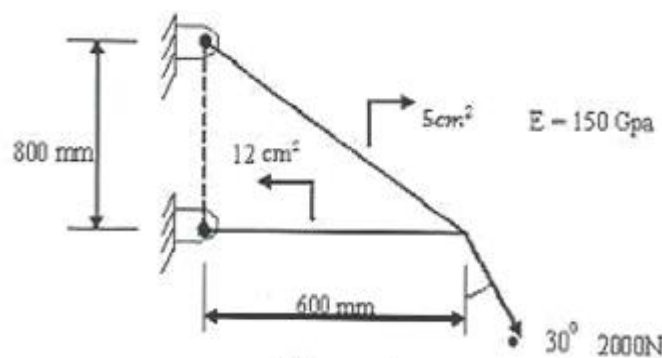

Figure.1
2. a. Use finite element method to calculate displacement and stresses of the bar as shown in figure.1.